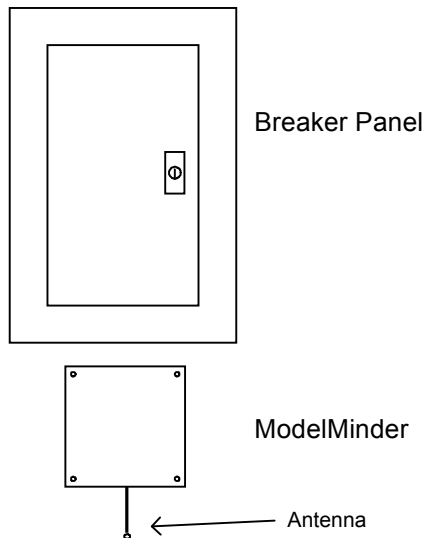

Figure 2.1: Overview
- a. Select a clear area on the wall directly below the breaker panel to mount the ModelMinder enclosure. (**Figure 2.1**)